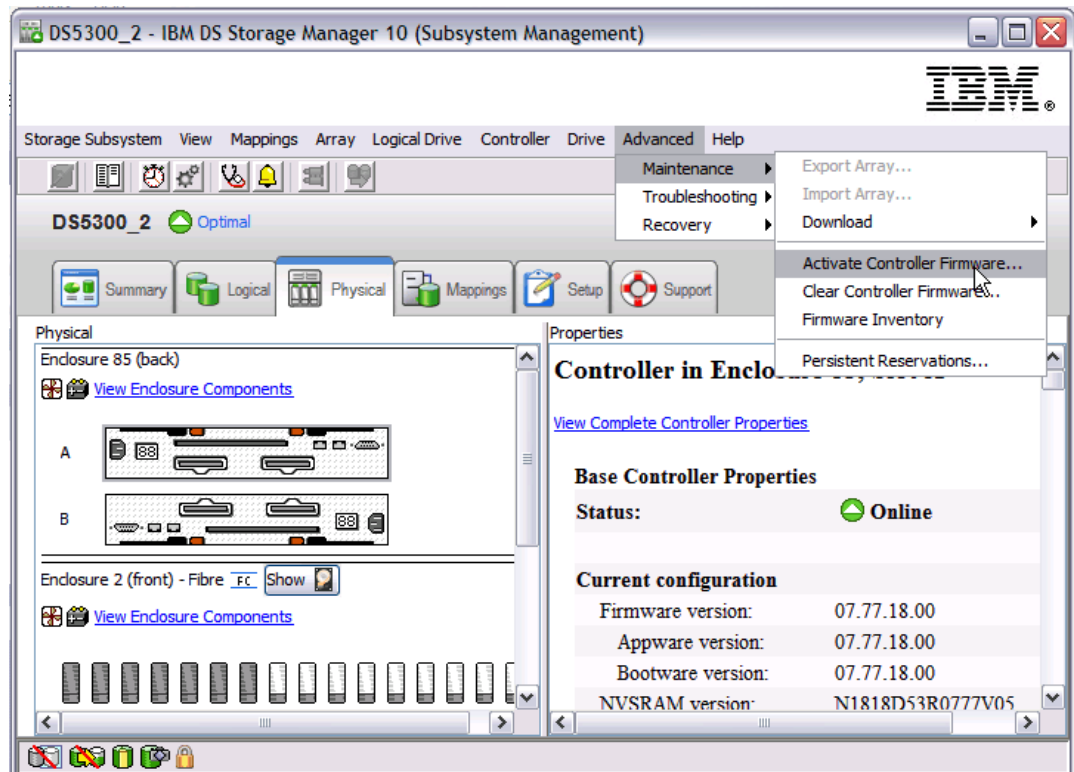

Figure 5-12 Activate staged firmware manually
7. If you choose a staged firmware upgrade, the new firmware is now ready for activation but not yet active. To activate it, select **Advanced** → **Maintenance** → **Activate Controller Firmware**, as shown in Figure 5-12.